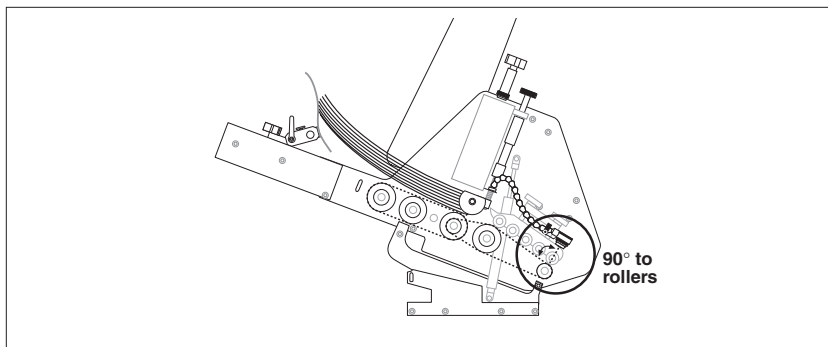

Figure 2-16. Adjusting Photo Sensor for Perpendicular Position
1. Aim and align the photo sensor straight above (perpendicular to) the product (Figure 2-16). If the photo sensor is at an angle, the light will not be reflected back to the receiver.